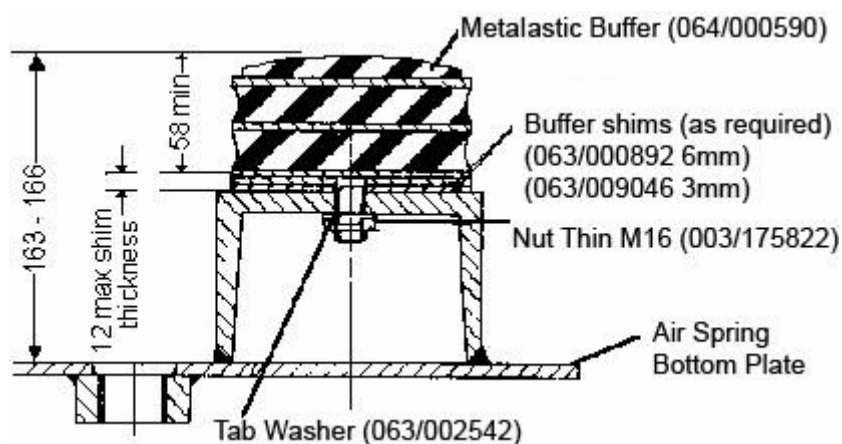

Figure 1: Bumpstop Assembly
4. Measure the bumpstop stack height which should be between 163 and 166mm (see Figure 1).